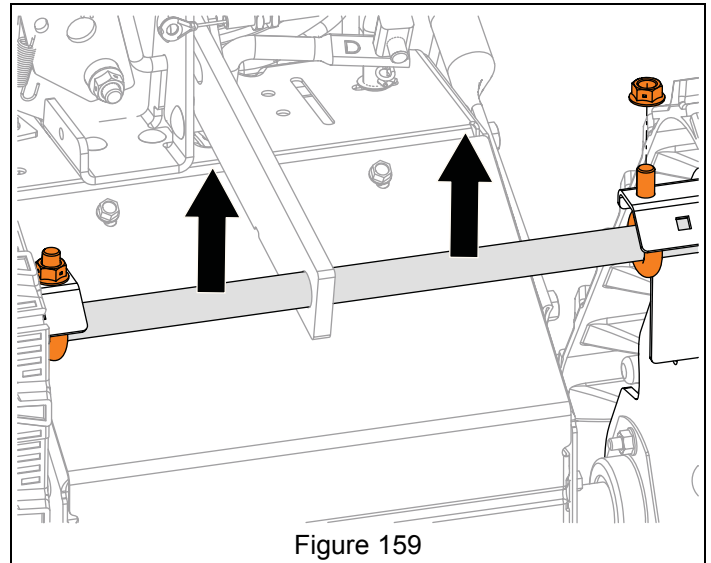

Figure 159
4. Remove flange nuts from eye bolts around rear track axle to release track tension. See Figure 159.